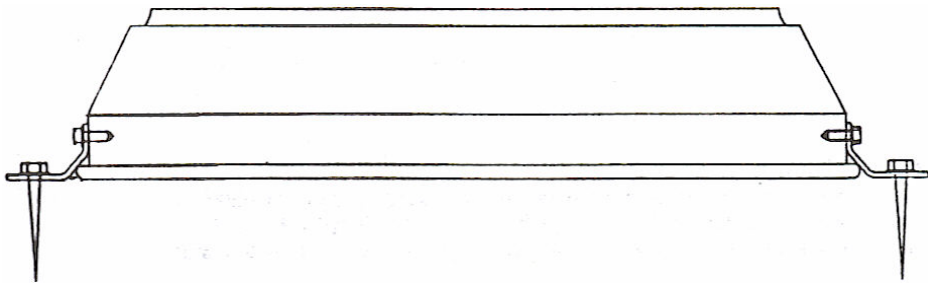

Figure 2
- To fix the heater into the ground attach the 3 pcs ground fixers using M6 x 10mm (length) fixer bolts. See figure 2.